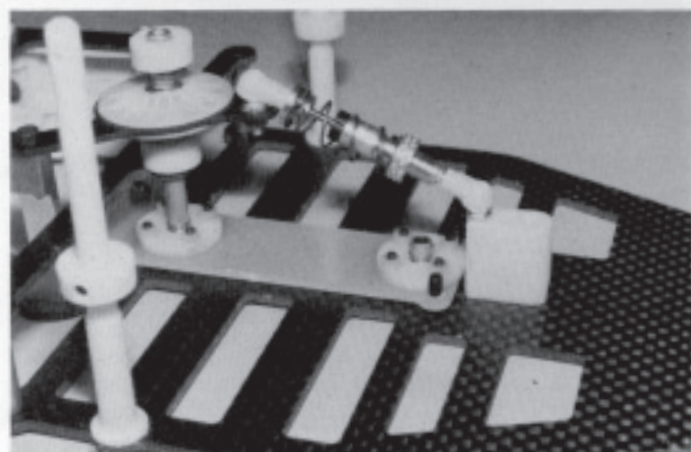

Fig. 49
□ Fig. 49 Snap the shock on to the aluminum ball ends on the antenna/shock mount and upper rear bracket. Make sure that the adjusting nut side of the shock is closer to the antenna shock mount as shown.